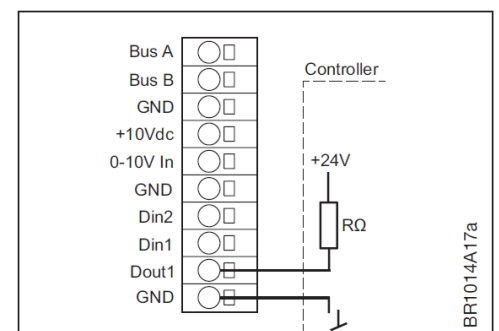

Fig. 3-18: Digital output connection
- Electrical connection (see fig. 3-18)